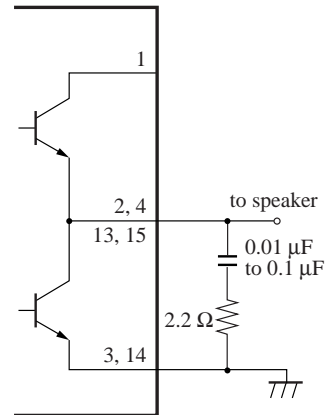

Figure 2
(1) In order to increase the oscillation allowance, it is unnecessary to use a capacitor and a resistor between each output terminal and GND. However, when inserting the capacitor for countermeasures against output line noise between the output terminal and GND, insert a resistor of approx. $2.2\ \Omega$ in series as shown in Figure 2. The oscillation may occur if only capacitor is used. Use it after giving a sufficient evaluation.
(2) The use of polyester film capacitor having a little fluctuation with temperature and frequency is recommended as the capacitor for countermeasures against output line noise.